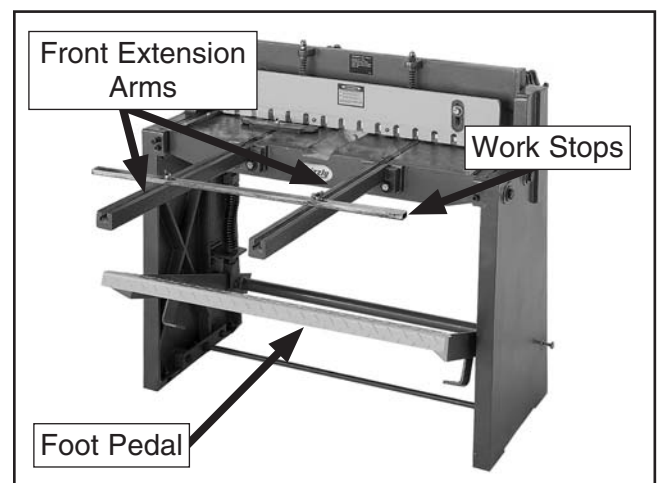

Figure 10. Foot pedal and front extension arms.
10. Slide the front work stop into the extension arms. When the foot pedal, front extension arms, and work stops are installed, the machine should look like **Figure 10**.